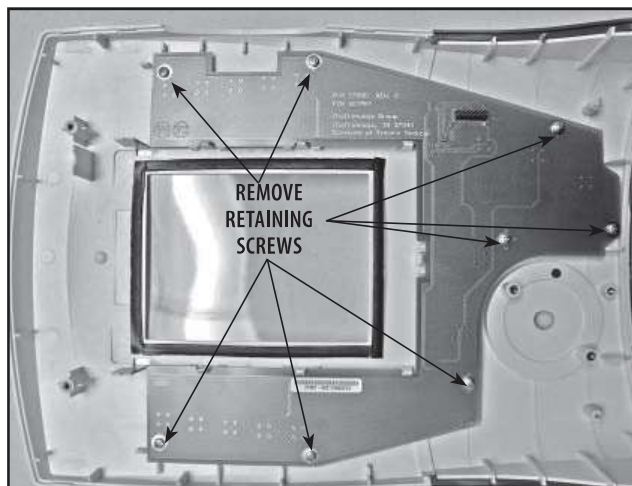

FIGURE 6.28
4. Remove eight Keymat PC Board Retaining Screws. **See Figure 6.28.**